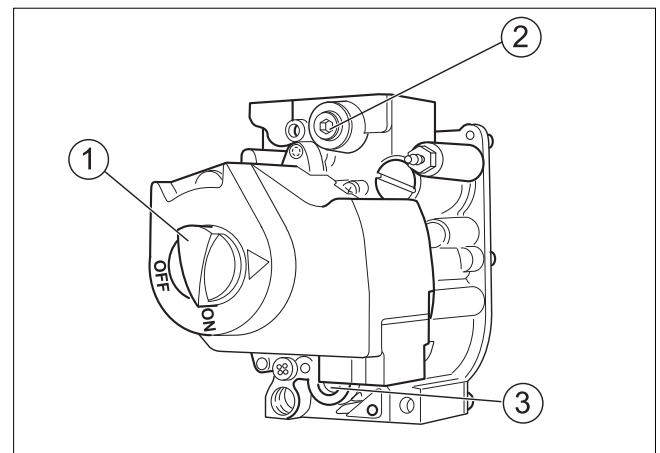

Fig. 27 Gas valve
26. Remove pressure test port and pressure gauge for measuring the gas supply pressure and orifice pressure from the gas valve. Close the openings with the screw plugs (→ Fig. 27 [2] and [3]).